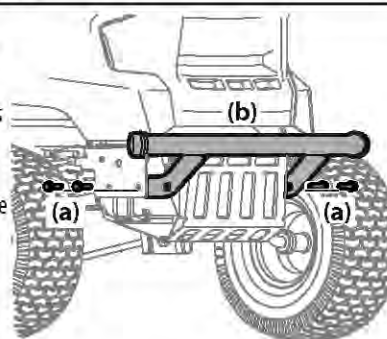

Figure 15
- Position the bumper brackets to the *inside* of the tractor's frame and secure it in place with the four hex flange screws (a). See Figure 15.